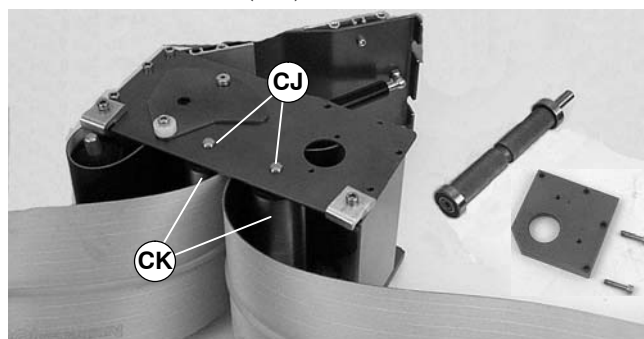

Figure 49
- For 5" (127 mm) or wider conveyor, depress both sides of each spring-loaded shaft (CJ of Figure 49). Remove pulleys (CK).